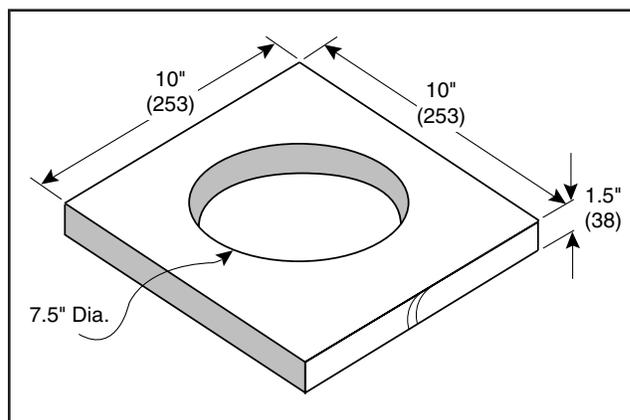

Figure 1 – Platform
- **Platform** for the rotor assembly that is at least 1.5" thick and 10" in diameter or square with a 7.5" diameter hole through. The top surface should be smooth (Figure 1).